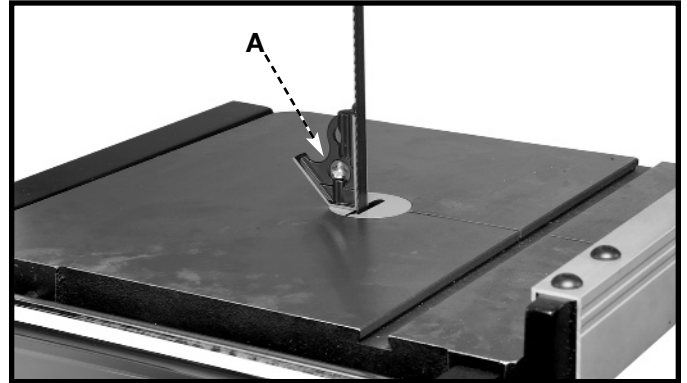

Fig. 24
2. Place a square (A) Fig. 24 on the table with one end against the blade to check for 90 degrees.